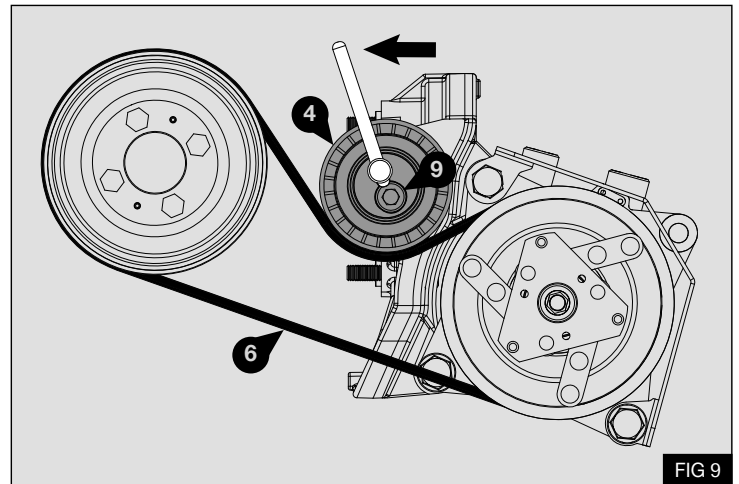

FIG 9
1. Fit the Compressor Drive Belt (6) taking care to position the ribs of the belt in the respective grooves of the pulleys - Fig 9/10